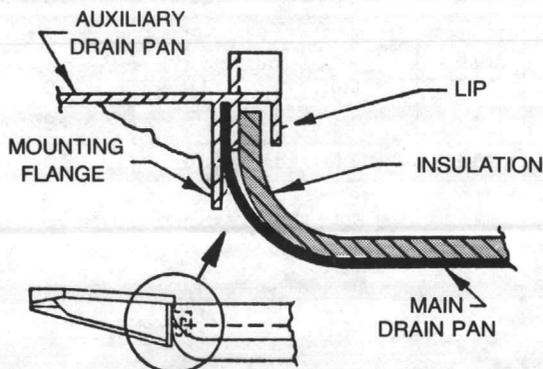

FIGURE 22 - Auxiliary Drain Pan on Horizontal Units of 02 to 06 Size
- 4. On horizontal units of 02 to 06 size, check that the drain pan liner insulation fits into the 1/4-inch wide groove under the auxiliary drain pan lip. See Figure 22.
The primary and auxiliary drains should be cleaned to allow condensate flow. On 02 to 06 horizontal units, ensure that the drain pan liner insulation fits into the 1/4-inch groove provided for it under the auxiliary drain pan lip, as in Figure 22. To remove the auxiliary drain pan from vertical 02 to 06 units, first slide the pan up, then pull it away from the unit.